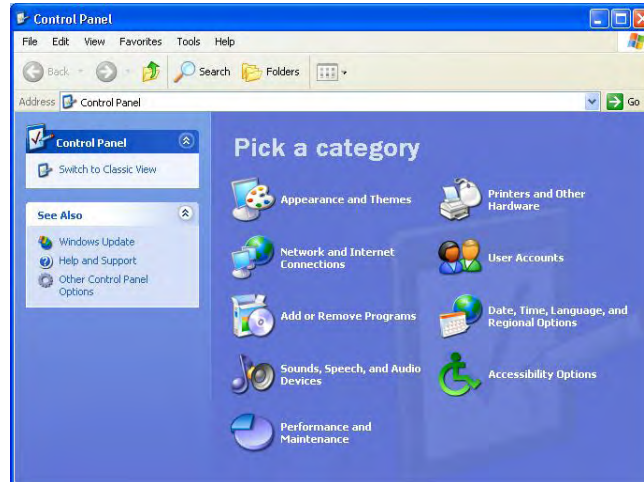

Figure 1-65. Change to Classic View
1. On the Windows taskbar select **Start** and **Control Panel** to open the “Control Panel” window (Figure 1-65).